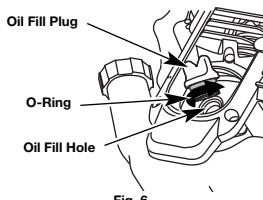

Fig. 6
- Remove the oil fill plug from the crankcase (Fig. 6).